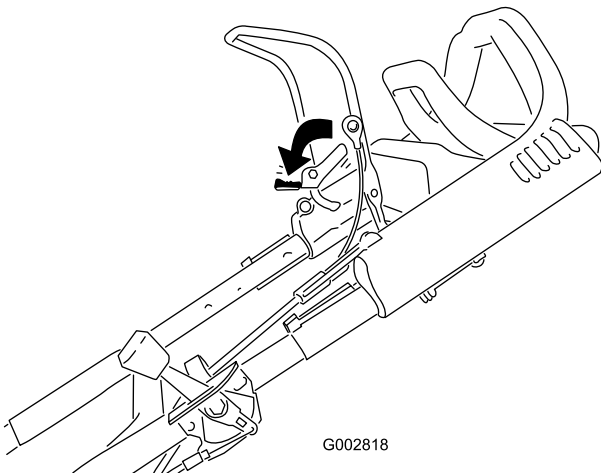

Figure 15
1. Push the control bar lock forward (Figure 15).